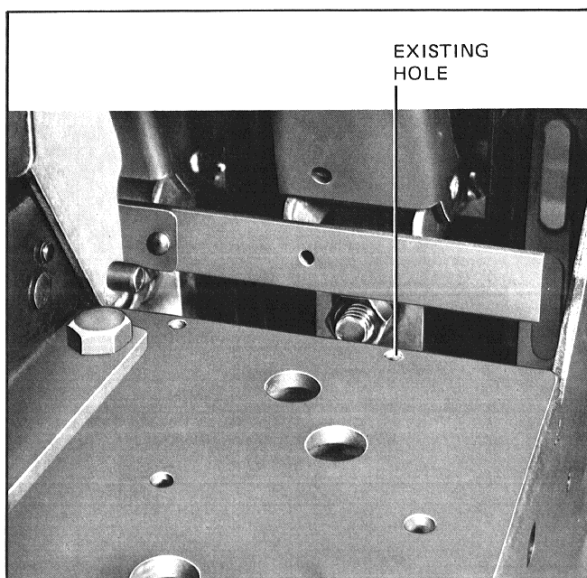
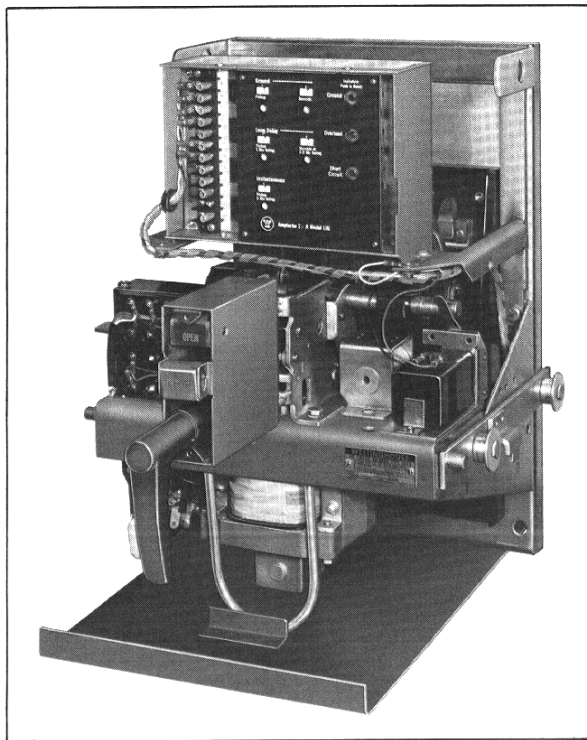

Fig. 9 Location of Existing Hole for Actuator
Fig. 13 Actuator Mounted and Wired on a DB-25 ACB
- Using the existing .25-20 tapped hole in the breaker platform, Fig. 9 and .25-20 x .5 sems screw secure the Actuator to the breaker with the right edge of the Actuator base parallel to the side of the breaker platform, Fig. 13.
4. Connect the black wires to the Actuator using the .138-32 nut lock and flat washer, see Fig. 13, being careful to observe polarity marks on one wire.